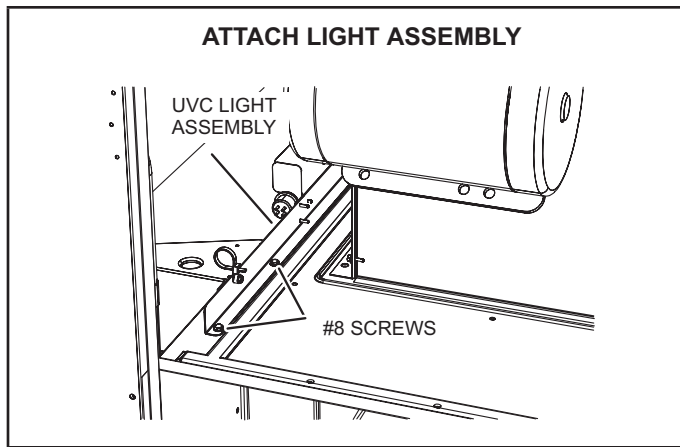

FIGURE 37
- 8 - Carefully place the UVC assembly on the blower deck. Line up the mounting holes on the UVC assembly with the mounting holes on the blower deck. See FIGURE 37. Use the #10 screws provided to attach the UVC assembly in place.